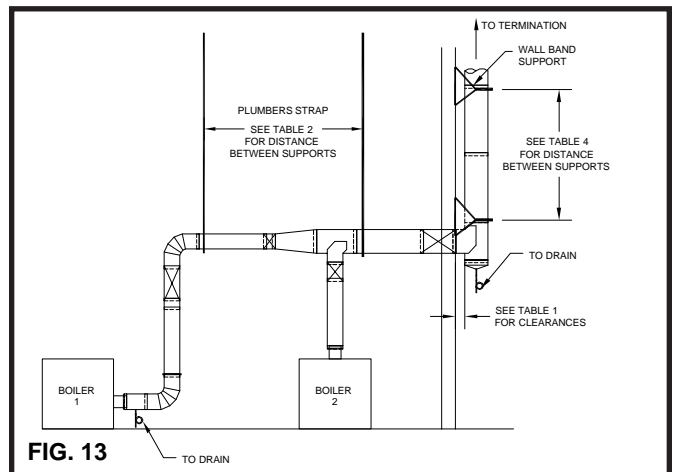

FIG. 13
1. There may be installations where CG & CGSW run vertically - exterior to the building and a wall band support is needed. A wall band support is used to secure the vent system to a wall while maintaining the minimum clearance to combustible construction (See FIG. 13).